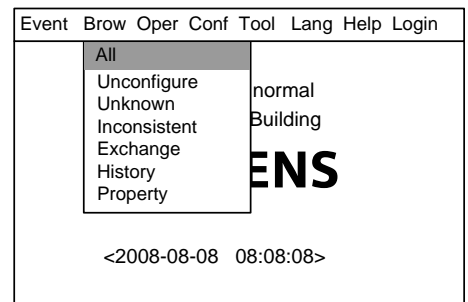

Fig.23-2
2. Press "→" to select "Brow" submenu (Fig. 23-2). Press "↓" to select the item which contains the equipment whose parameters need to be modified, and then press "OK". Now the equipment will be displayed directly in the window.